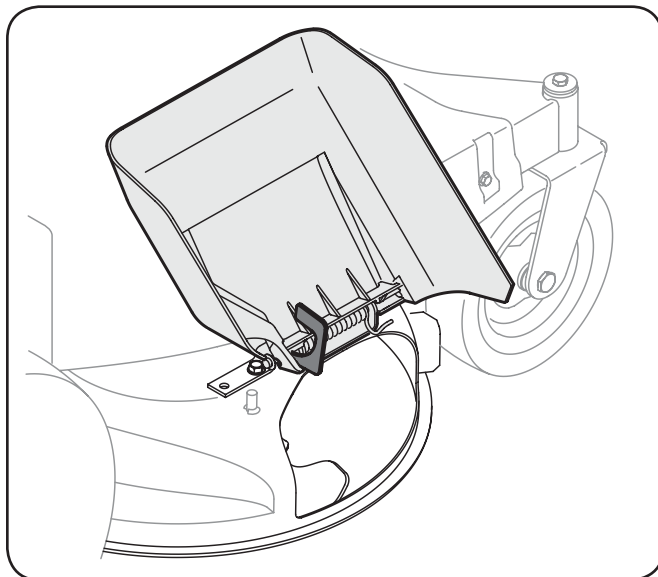

Figure 3-1
1. Locate the shipping brace, if present, found on the right side of the cutting deck. See Fig. 3-1.